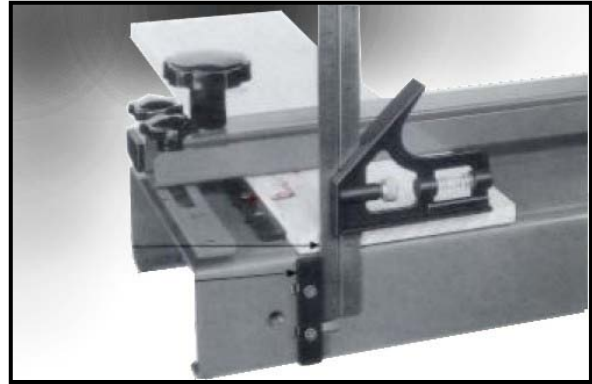

Figure-6
9. Set the template back from the front edge of the work piece by approximately $1/8''$. See Figure-6
11. Loosen the two knobs to position the template. Measure from the two ends of the work piece to the template to make sure the template is parallel to the front edge of the work piece. See Figure-6